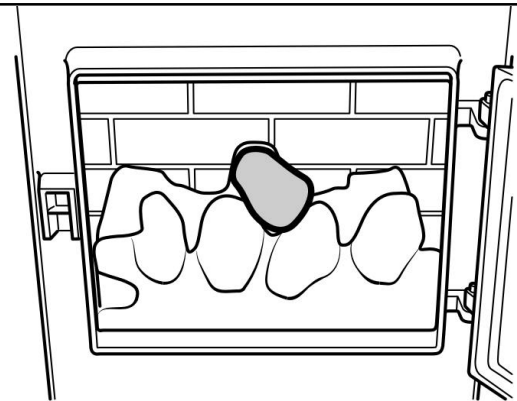

Figure 6.
8. Locate one of the ceramic coals identified with a number '1' as in figure 6.